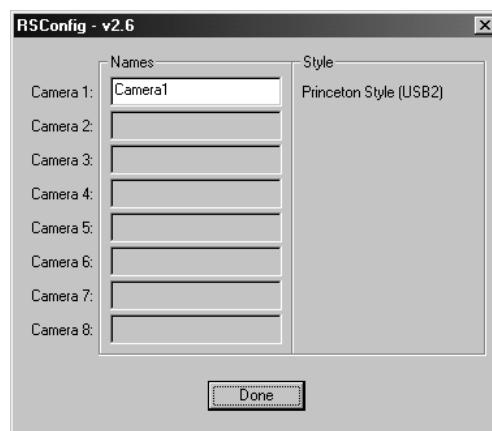

Figure 55. RSConfig dialog box
4. When the RSConfig dialog box (Figure 55) appears, you can change the camera name to one that is more specific or you can keep the default name "Camera1". When you have finished, click on the **Done** button.
4. When the RSConfig dialog box (Figure 55) appears, you can change the camera name to one that is more specific or you can keep the default name "Camera2". When you have finished, click on the **Done** button.